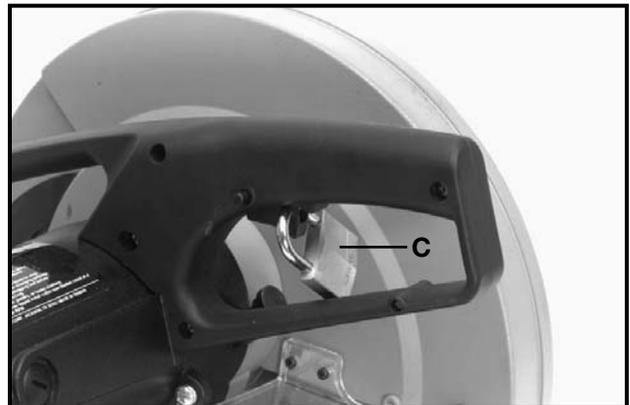

Fig. 7
A lock hole through the trigger switch is provided for a padlock (C), Fig. 7, with a 1/44" shackle. A padlock can be placed through this hole and locked to prevent unauthorized use of the machine. We recommend that a lock be installed whenever the machine is not in use.